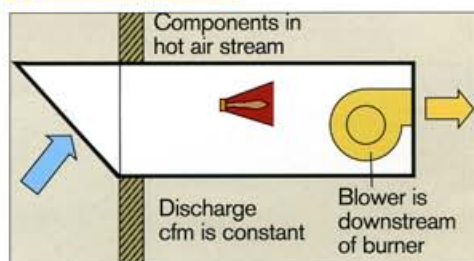

Fig. 5. Draw-thru MUA heater
**Draw-thru MUA heaters** are low-temperature-rise heaters that can be mistakenly thought of as high-temperature-rise space heaters. Both types of nonrecirculating, direct-fired heating systems use 100% outside air and look somewhat alike. However, the technology inside is quite different (Fig. 5).